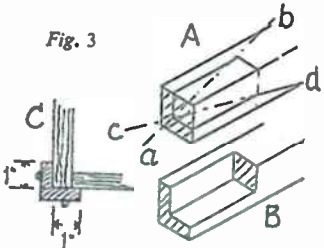

Fig. 3
To fit the legs to the tray, pencil out a portion at the top of each leg, 1 in. each way (or 3/4 in. each way if the bought legs suggested are employed), the length being equal to the depth of tray, plus its bottom. This would be 4 1/2 ins. if wood of 3/4 in. thickness is used for the bottom. When set out, as in detail (A) (Fig. 3), saw along lines (a-b) and (c-d) and chisel out to the saw cuts. The remainder can then be removed with mallet and chisel, to finish as at (B). Fix the legs to the tray as in plan detail (C) with round-headed screws, using glue as well to strengthen the joints.